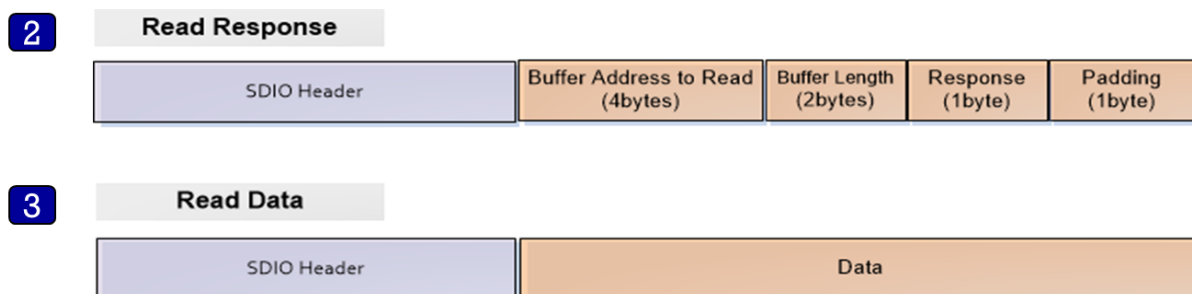

Figure 16. Structure
2. The Host reads the response message from Response Command address (0x50080258, blue rectangle in Figure 16), and parse it using struct `_st_host_response` (see Section 3.2.6).
3. The Host reads data from address (BUFF_ADDR) which is received from Slave in the response message (green rectangle in Figure 16).